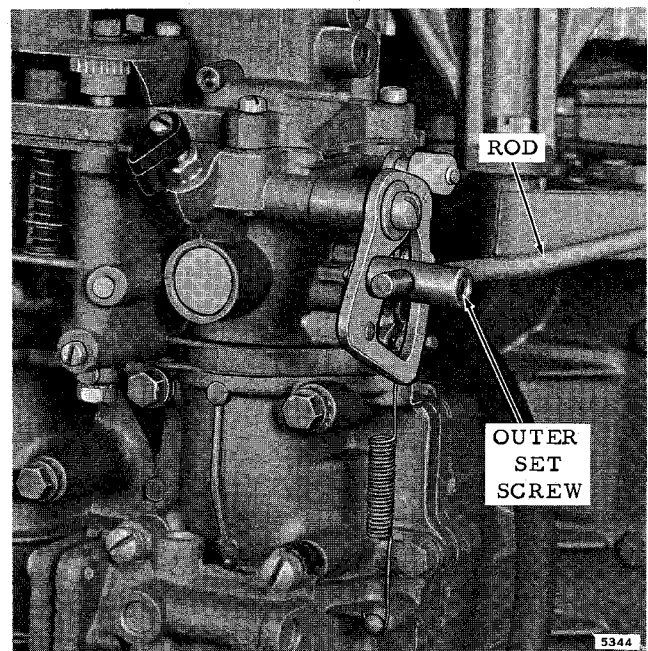

Figure 3-6. Throttle Linkage
a. Remove outer set screw and loosen inner set screw to disconnect throttle control rod. See Figure 3-6.